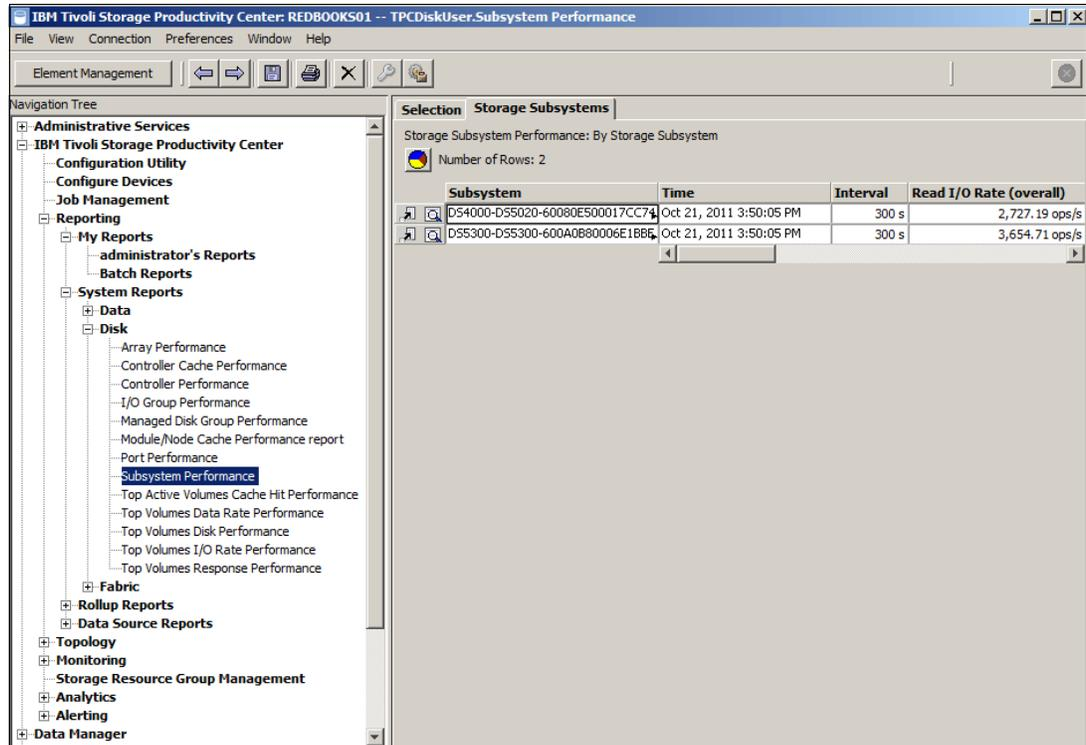

Figure 9-36 Subsystem Performance report
- Click one of the listed predefined reports (note that not all predefined performance reports are supported with DS5000 at the time of writing). In the example, shown in Figure 9-36, we click **Subsystem Performance** report to display a list of all storage subsystems monitored by TPC with their performance metrics values. Note that column *Subsystem* shows the machine type and model followed by its serial number.